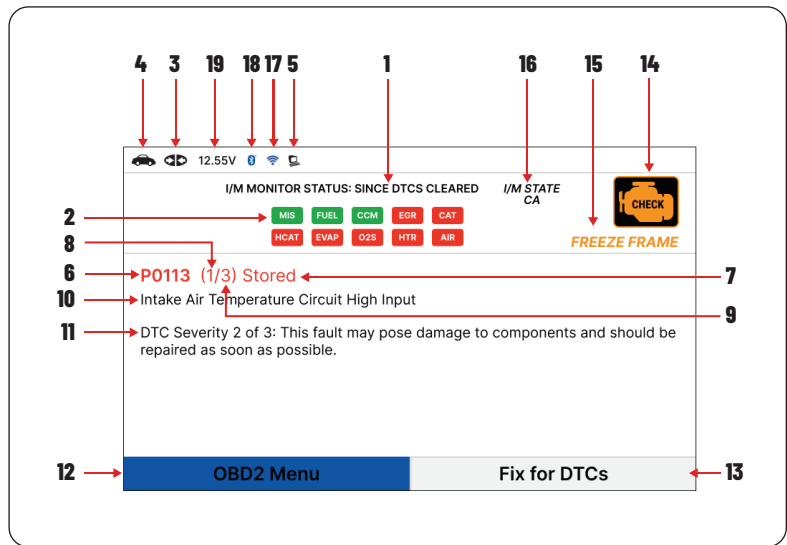

Figure 2. Tablet Display Functions
See Figure 2 for the locations of items 1 through 19 below.